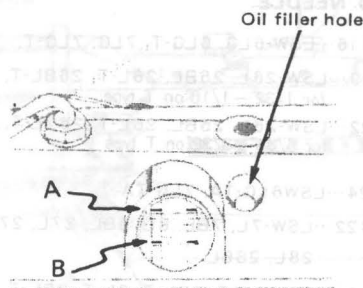

Fig. 1
1. To fill oil reservoir on top of machine until oil level reaches to upper reference line A. Always keep oil level is above lower reference line B. (Fig. 1)